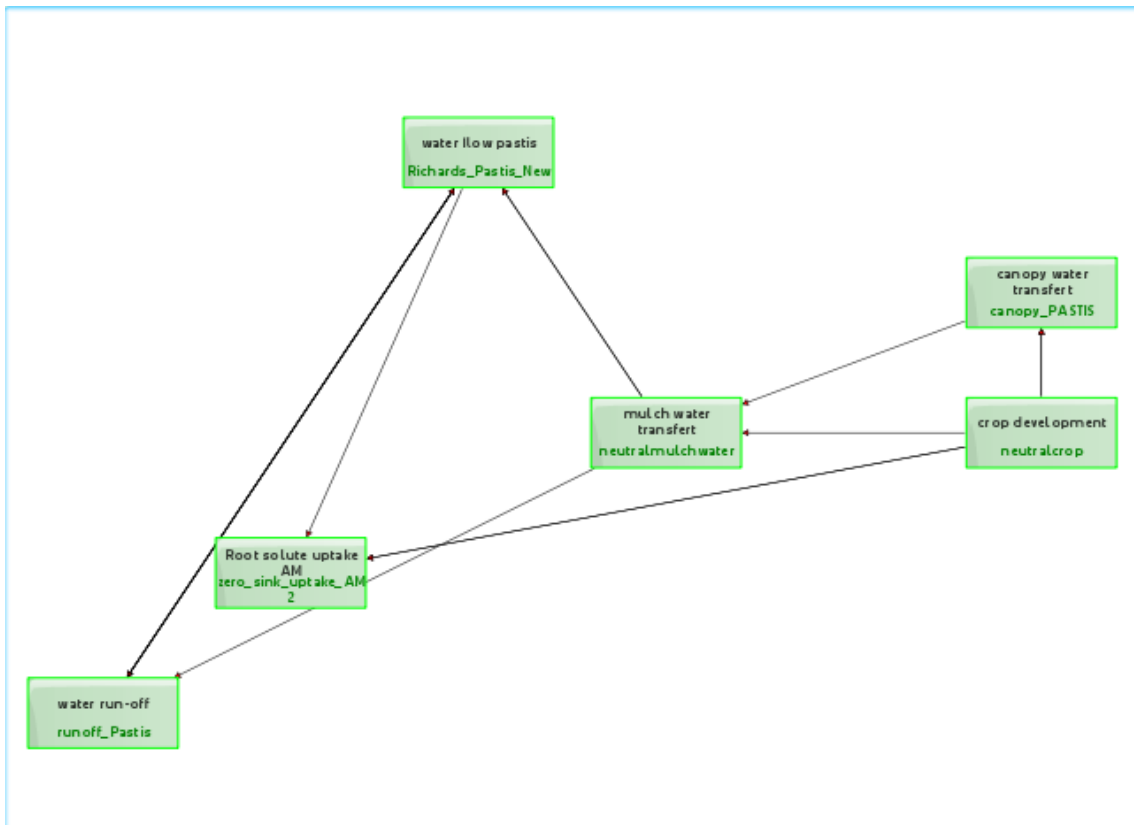

Figure 34: Graphic representation of a loop between modules
3. **Graphic part** The modules to be scheduled are shown graphically as well as their connections. An arrow indicates the direction of the connection. If a double arrow exists (case of the “runoff_Pastis” and “Richards_Pastis_New” modules in the example of the figure 34), it means that there is a direct loop between these two modules.